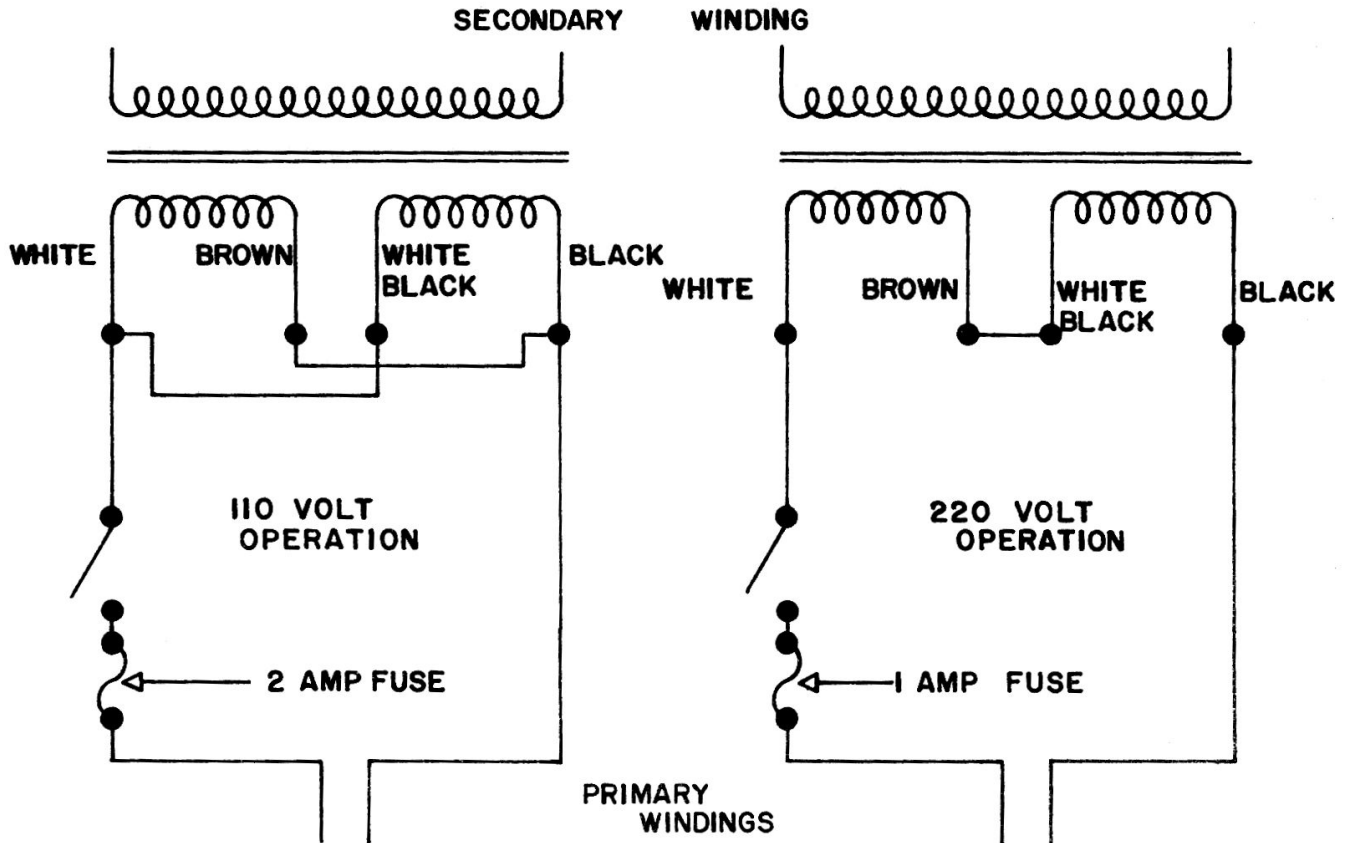

Figure 6 Transformer Connections
- (d) The power transformer has a specially tapped primary winding for use on 110 or 220 volts A.C. Refer to the figure 6 for the proper connections for the power line voltage in your locality.